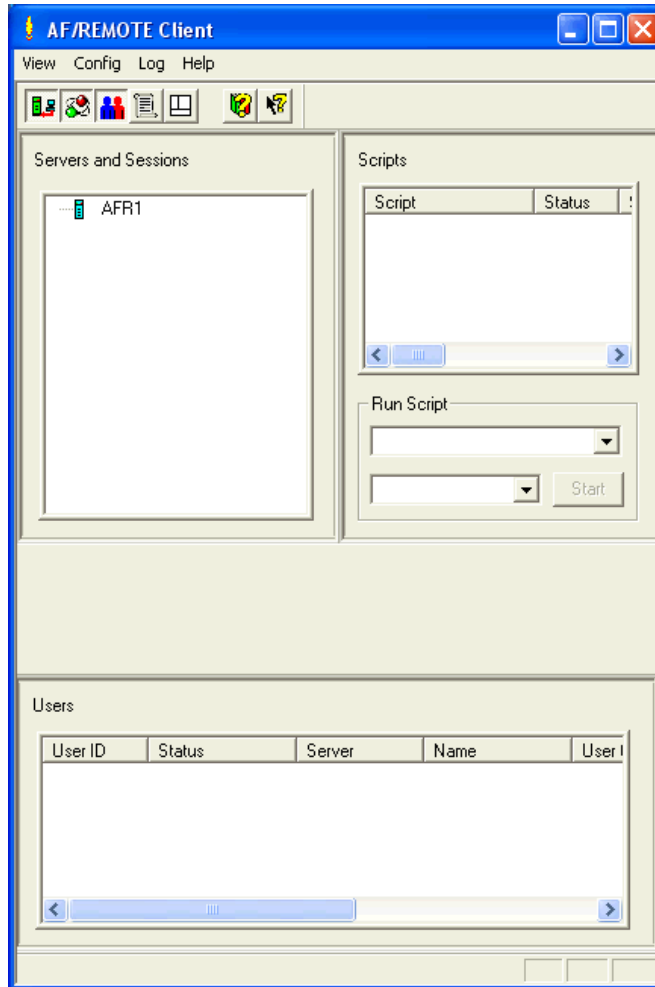

Figure F-2 AF/REMOTE client panel - part 1
window focus is transferred to the copy of the AF/REMOTE client program that is already executing (see Figure F-2 on page 135). To enable this feature, uncomment the following entry in the AF/REMOTE client profile (rpclprf.txt):
3. The AF/REMOTE client control panel is displayed (Figure F-2).
Note: The name that appears in the Servers and Sessions pane of the AF/REMOTE Client control panel has not changed (see Figure F-2 on page 135).